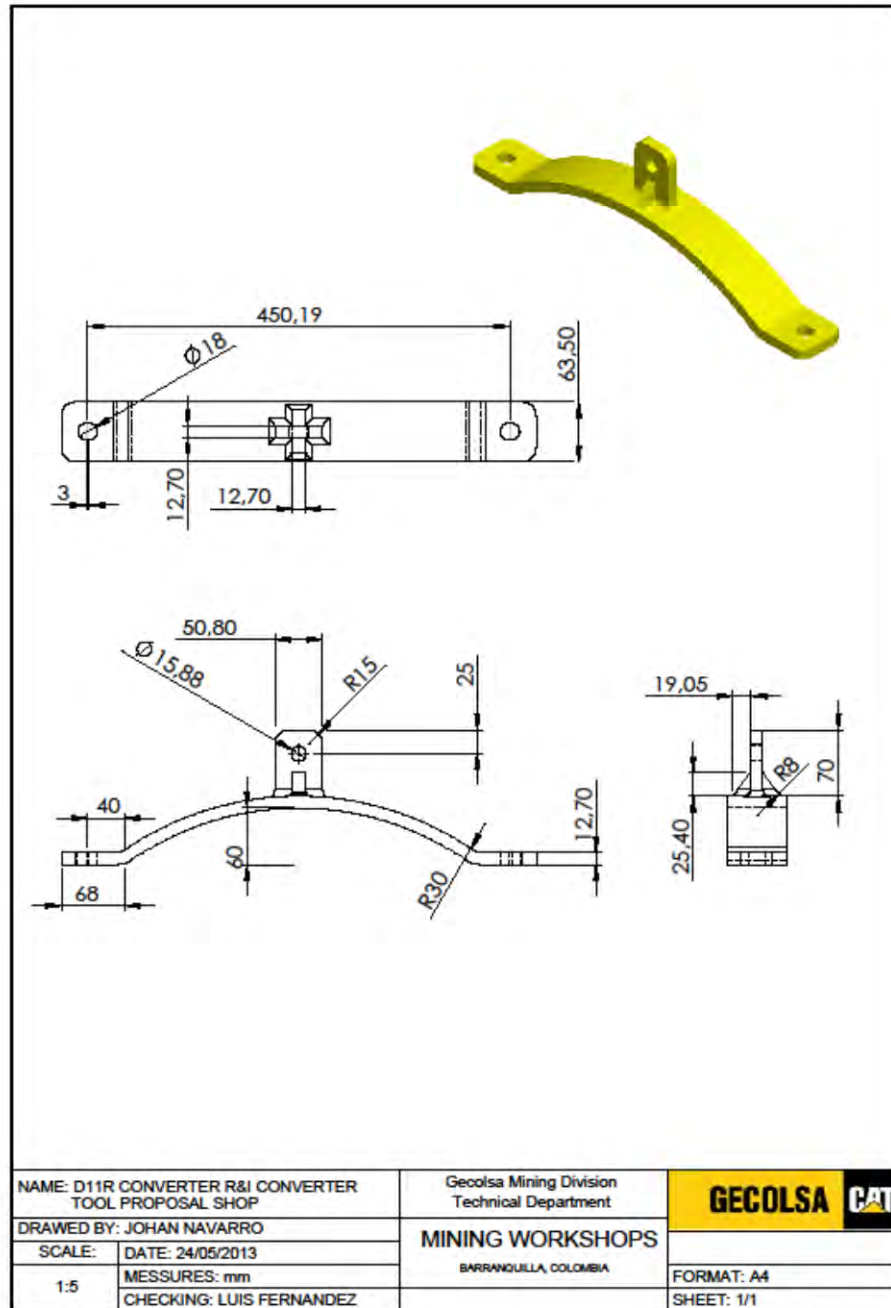

Figure 4. Tool Drawing.
The tool consists of a curved plate to be adjusted to the converter geometry. The dimensions can be found attached to the drawings (See Figure 4).
- Material for making the tool (See Figure 4 for dimensions)